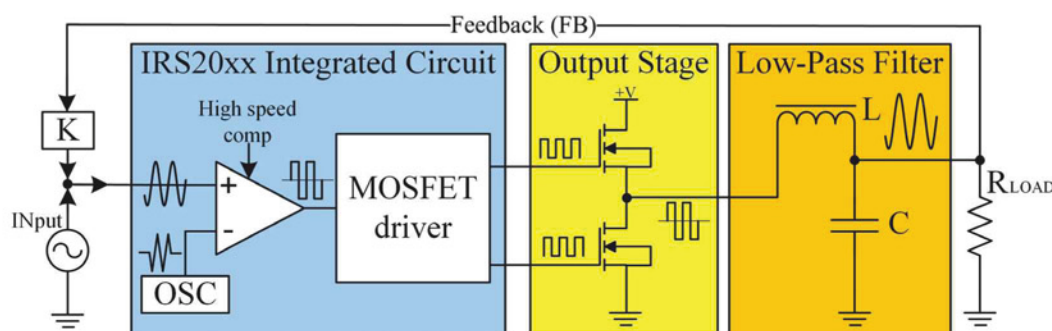

Figure 1: Block diagram of a single-channel amplifier based on IRS20xx
manufactured by International Rectifier (IR), which simplifies audio amplifier designs with its need for fewer external components, making it cost-effective, flexible and compact. Figure 1 shows the block diagram of a single-channel class-D amplifier built on an IC from this family.